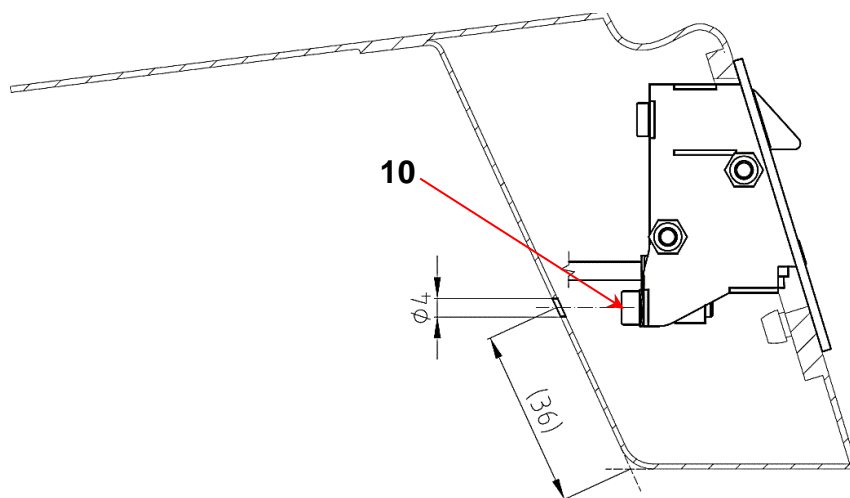

Fig. 5
- 2.4. From the rear drill the hole in the fuselage stiffener for access to adjusting screw (10, Fig. 5) of sensor.